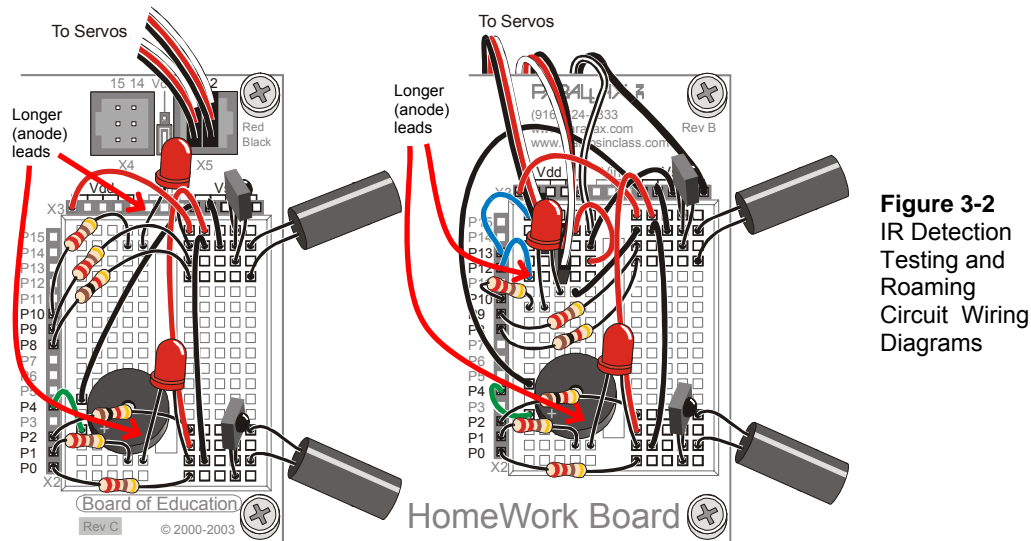

Figure 3-2
Figure 3-1 shows the circuits for IR detection and user indicators from *Robotics with the Boe-Bot*, Chapter 7, Activity #2, and Figure 3-2 shows a way to build these circuits with wiring diagrams.
- ✓ Build the circuits shown in Figure 3-1 and Figure 3-2.